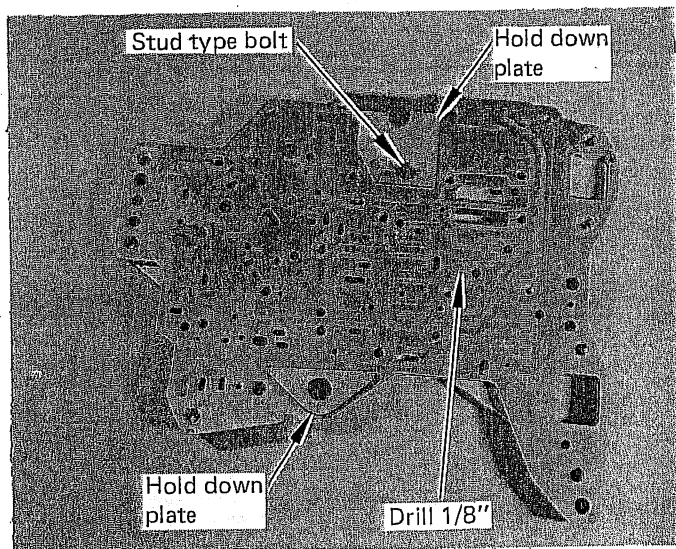

FIGURE 8
STEP 14. Set transfer plate in front of you with the separator plate facing up. Note the position of the hold down plates. (See Fig. 8) Note the stud-type bolt on the large plate. Remove hold down plates and bolts. Remove separator plate from transfer plate. If there is a filter screen in the separator plate, discard it. Use the drill supplied and drill out the hole indicated. (See Fig. 8) Deburr the hole with a file, stone, or sandpaper.
STEP 16. Install the separator plate into position on the transfer plate. Do not use a gasket between the two. Install the hold down plates into position and install three bolts finger tight. (See Fig. 8) Make sure stud bolt is in the correct location. Tighten bolts finger tight.